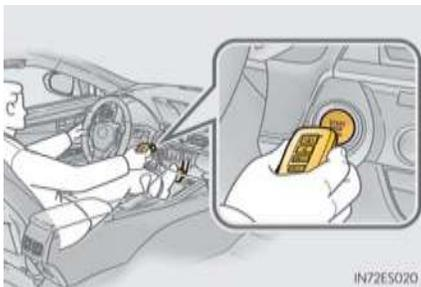

Figure 20
- Hold the Lexus emblem side of the key fob next to the Power Button allowing system to recognize the key fob (Figure 20)